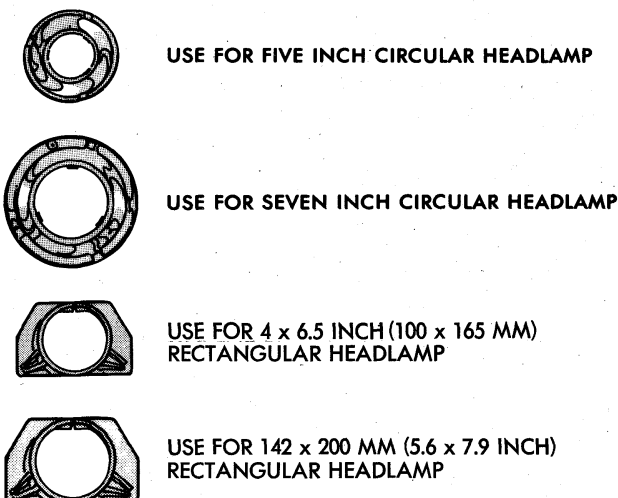

Fig. 7—Head Lamp Adaptors
(1) If necessary to expose adjusting screws remove headlamp trim rings.
(2) Snap proper adaptor into position on each aimer (Fig. 7).